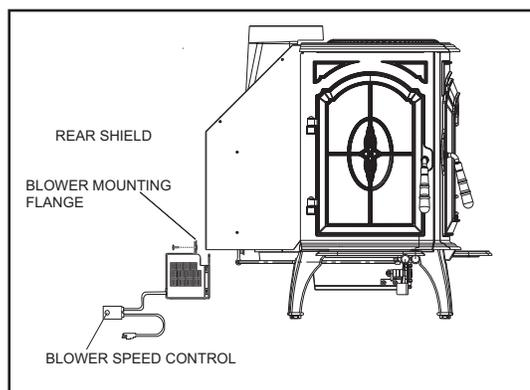

Figure 15.3
2. Using the phillips head screws, attach blower to lower rear of stove, as shown. **Figure 15.3 & 15.4**